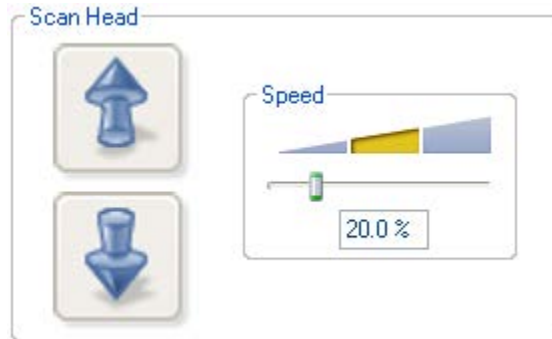

Figure 15. Z-scanner head movement.
- i) In either mode, bring the surface into focus by moving the scan head down (Figure 15).